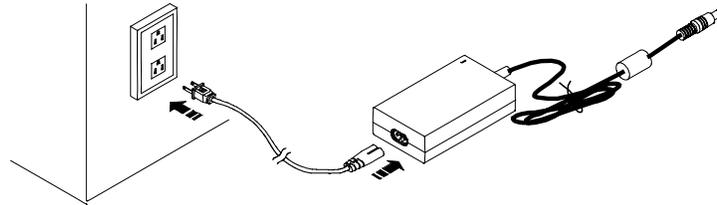

Figure 1-6: Connecting the Power Cord and the AC Adapter
There are two possible ways of powering the Notebook. One is by an internal battery module and the second is by connecting the Notebook's AC Adapter. This chapter will focus on the AC connection. *Figure 1-6* illustrates this connection. For information on using battery power, please refer to Chapter 5
To power the Notebook by using the external AC Adapter, please refer to *Figure 1-6* and the following instructions:
1. Insert the end of the AC Adapter output cable into the Notebook's AC port. *Figure 1-6* illustrates this connection. Do not force a connection.